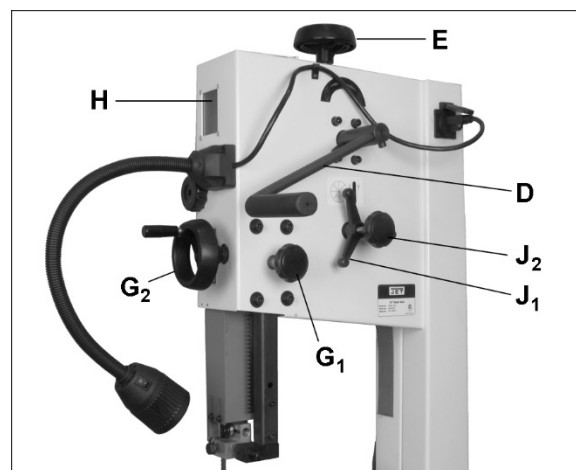

Figure 5-7 (shown with optional lamp)
6. Raise quick tension lever (see D, Figure 5-7) to release position. If needed, rotate tension handwheel (E, Figure 5-7) counterclockwise for further de-tensioning.
Refer to Figures 5-7 and 5-8.
1. Lower tension lever (D, Figure 5-7) to tension position.
2. Set proper blade tension by rotating handwheel (E, Figure 5-7), clockwise to tighten, counterclockwise to loosen.
4. Loosen guide post locking knob (G₁, Figure 5-7) and use handwheel (G₂) to lower guide post until you can see blade through tracking window (H).
7. If blade tends to migrate toward left or right edge of wheel, loosen locking handle (J₁, Figure 5-7) counterclockwise, and rotate tracking knob
3. Lower blade tension lever (see D, Figure 5-7) to tension position.